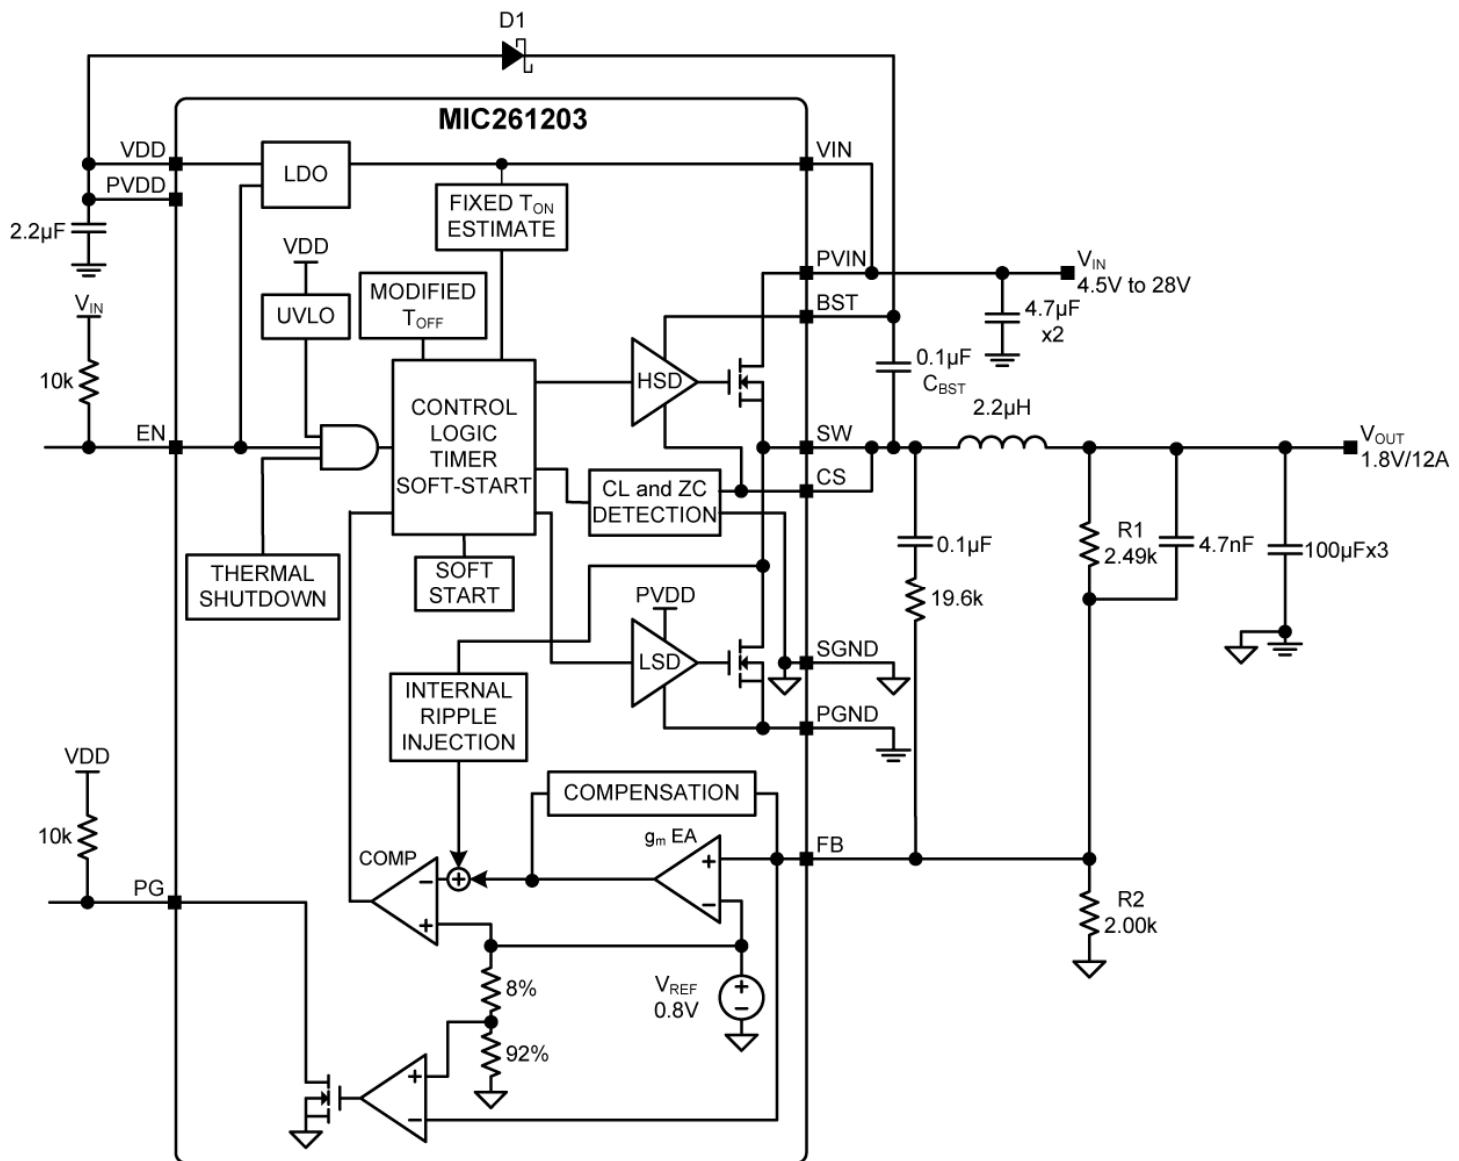

Figure 1. MIC261203 Block Diagram
The MIC261203 is able to operate in either continuous mode or discontinuous mode. The operating mode is determined by the output of the Zero Cross comparator (ZC) as shown in Figure 1.
The Block Diagram (Figure 1) shows a bootstrap circuit, consisting of D1 (a Schottky diode is recommended) and  $C_{BST}$ . This circuit supplies energy to the high-side drive circuit. Capacitor  $C_{BST}$  is charged, while the low-side MOSFET is on, and the voltage on the SW pin is approximately 0V. When the high-side MOSFET driver is turned on, energy from  $C_{BST}$  is used to turn the MOSFET on. As the high-side MOSFET turns on, the voltage on the SW pin increases to approximately  $V_{IN}$ . Diode D1 is reverse biased and  $C_{BST}$  floats high while continuing to keep the high-side MOSFET on. The bias current of the high-side driver is less than 10mA so a 0.1 $\mu$ F to 1 $\mu$ F is sufficient to hold the gate voltage with minimal droop for the power stroke (high-side switching) cycle, i.e.  $\Delta_{BST} = 10mA \times 1.67\mu s / 0.1\mu F = 167mV$ . When the low-side MOSFET is turned back on,  $C_{BST}$  is then recharged through D1. A small resistor  $R_G$ , which is in series with  $C_{BST}$ , can be used to slow down the turn-on time of the high-side N-channel MOSFET.